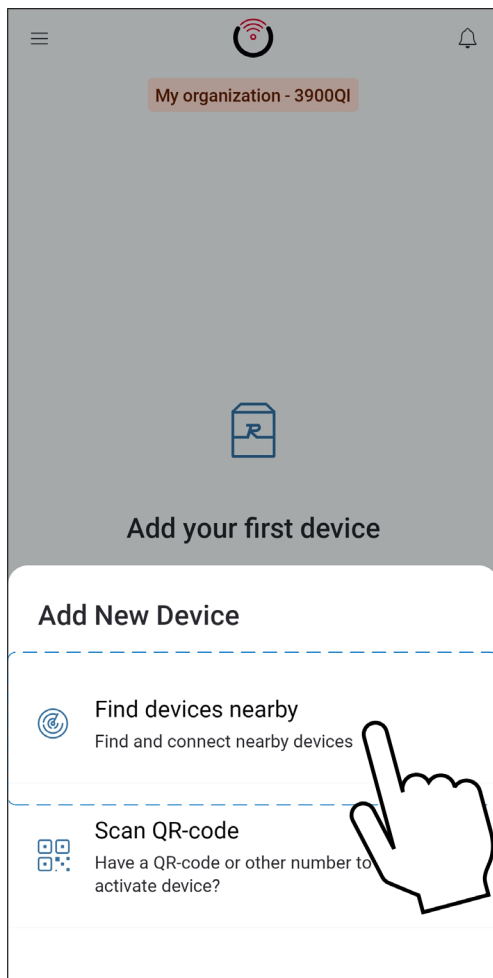

Figure 83. Add New Device
2. "Add New Device" screen will appear. Ensure to have Crosswind V heater powered and Wi-Fi signal available in the area, then press "Find devices nearby" button. See **Figure 83**.